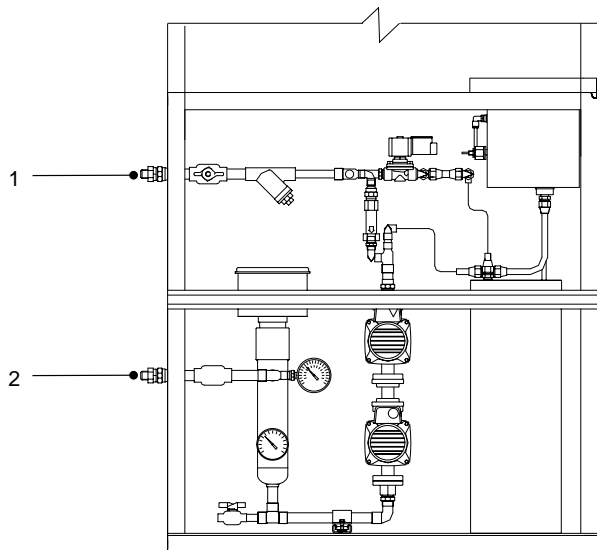

Figure 3 Typical Water Hose Connections
See Figure 3. Connect the system water hoses to the To Process (2) and From Process (3) fittings. See the System Layout drawing provided with the system documentation for hose routing.